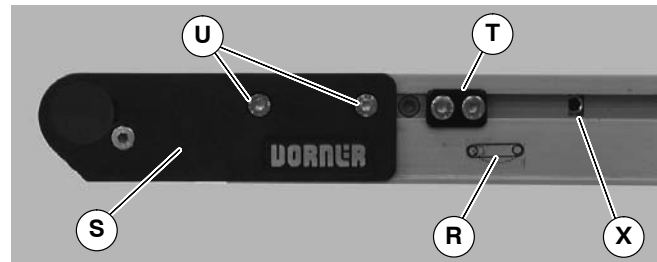

Figure 37
1. On tension end of the conveyor, identified with a  label (R of Figure 37), adjust head plate assembly (S): On both sides of conveyor, loosen fastening screws (U) and rotate pinion gear (X) to adjust head plate assembly.
2. Adjust head plate assembly so end of conveyor frame aligns with first tensioning mark (BR of Figure 38). Tighten fastening screws (U of Figure 37) on both sides of conveyor to 60 in-lb (7 Nm).
3. If equipped with cam tracking assemblies (T of Figure 37), reposition against head plates and adjust belt tracking. Refer to "Conveyor Belt Tracking", page 16.